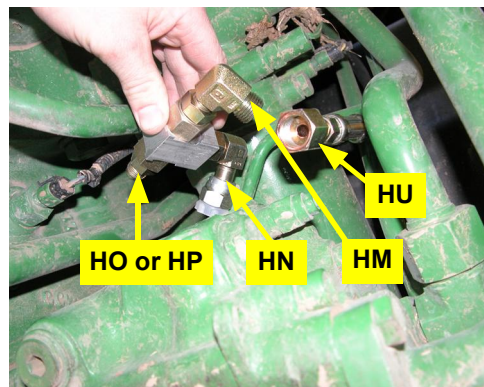

Figure 7c: Install load sense shuttle
- d. Connect replacement hose **HU** to shuttle adapter fitting **HM**. Attach the shuttle's elbow swivel adaptor **HN** to the pump where you disconnected the tractor's load sense pipe from (Figure 7c).